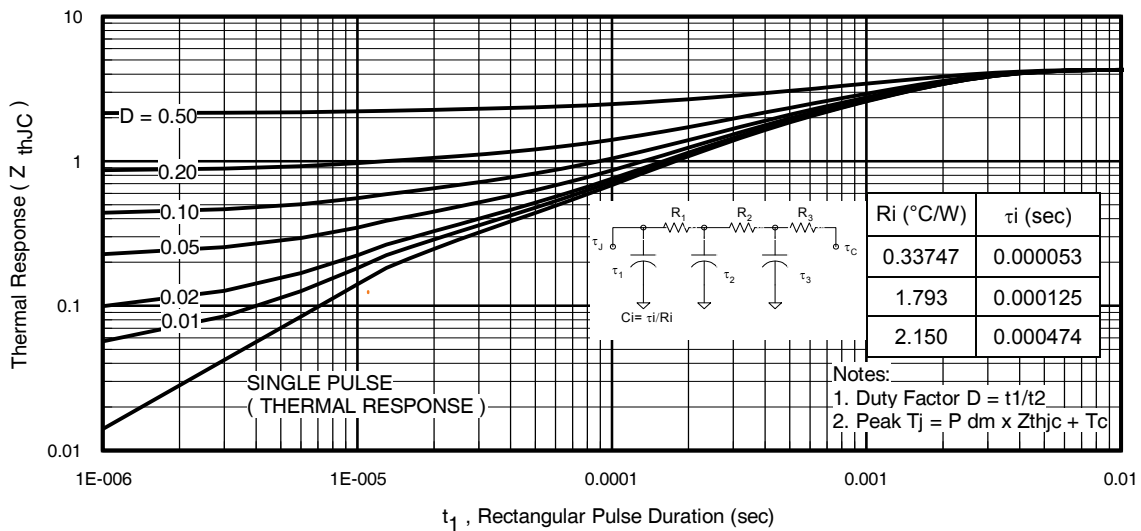
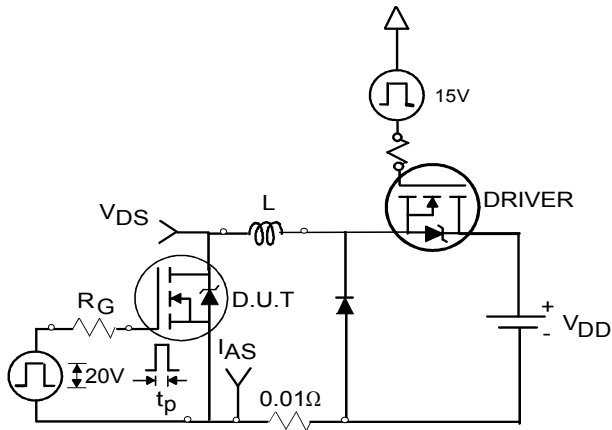

Fig 11. Maximum Effective Transient Thermal Impedance, Junction-to-Case
Fig 12a. Unclamped Inductive Test Circuit
- ① Repetitive rating; pulse width limited by max. junction temperature. (See fig. 11)
- ② Limited by T_{Jmax} , starting $T_J = 25^\circ\text{C}$, $L = 1.29\text{mH}$, $R_G = 25\Omega$, $I_{AS} = 5.2A$, $V_{GS} = 10V$. Part not recommended for use above this value.
- ③ Pulse width $\leq 1.0\text{ms}$; duty cycle $\leq 2\%$.
- ④ $C_{oss\text{ eff.}}$ is a fixed capacitance that gives the same charging time as C_{oss} while V_{DS} is rising from 0 to 80% V_{DSS}
- ⑤ Limited by T_{Jmax} , see Fig.12a, 12b, 15, 16 for typical repetitive avalanche performance.
- ⑥ This value determined from sample failure population. 100% tested to this value in production.
- ⑦ When mounted on 1" square PCB (FR-4 or G-10 Material). For recommended footprint and soldering techniques refer to application note #AN-994
3. Equation below based on circuit and waveforms shown in Figures 12a, 12b.